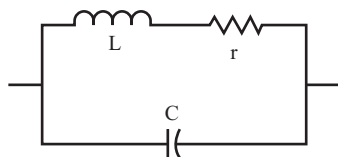

FIGURE 12.10
47. In the circuit shown in Figure 12.10,  $L = 10 \text{ mH}$ ,  $C = 0.02 \text{ } \mu\text{F}$ , and  $r = 7 \text{ ohms}$ . Find  $f_r$ ,  $X_L$ ,  $X_C$ ,  $Z$ ,  $Q$ , and the bandwidth. \_\_\_\_\_